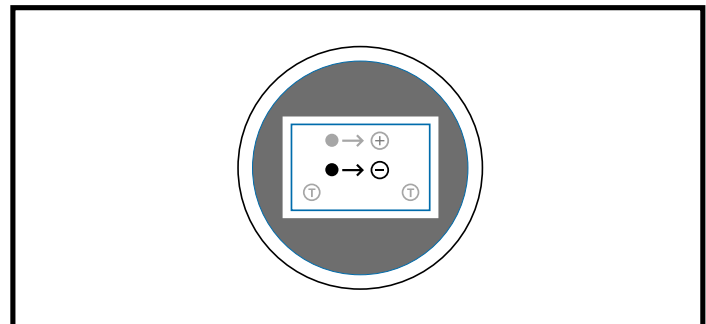

Figure 35. Battery Wiring Diagram
7. Reconnect the battery harnesses according to the battery wiring diagram label. See figure 35.